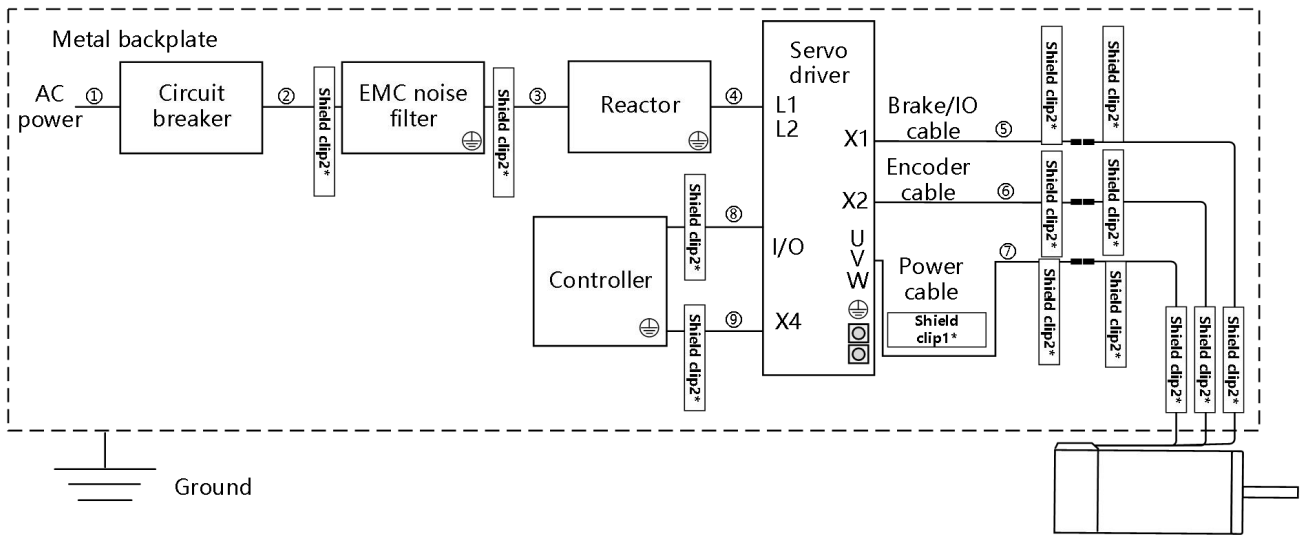

Figure 3-5 FD415P/425P drive EMC setting conditions schematic diagram
(1) Reactor
- To suppress the higher harmonic currents at the input power side, connect a reactor to the power input end of the driver. Figure 3-5 shows how to install a reactor.
(2) EMC noise filter